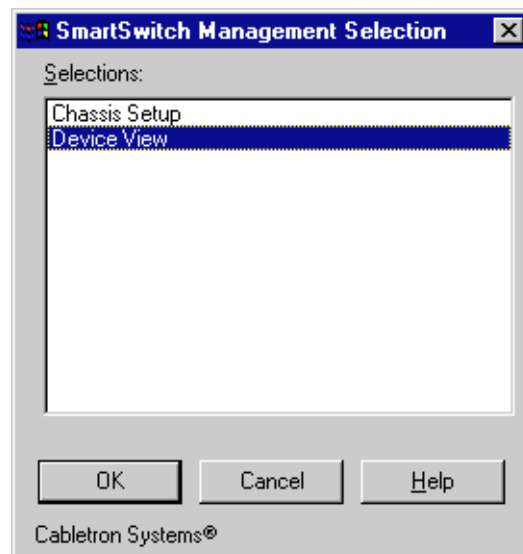

Figure 2-2. The Management Selection Window
1. In any map, list, or tree view, double-click MultiSwitch 700 icon you wish to manage. The Management Selection window, Figure 2-2, opens.
1. In any map, list, or tree view, click the device you wish to manage, and select **Manage→Node** from the primary window menu bar, or select the Manage Node  toolbar button. The Management Selection window, Figure 2-2, opens.
2. Select **Manage** from the resulting menu. The Management Selection window, Figure 2-2, opens.